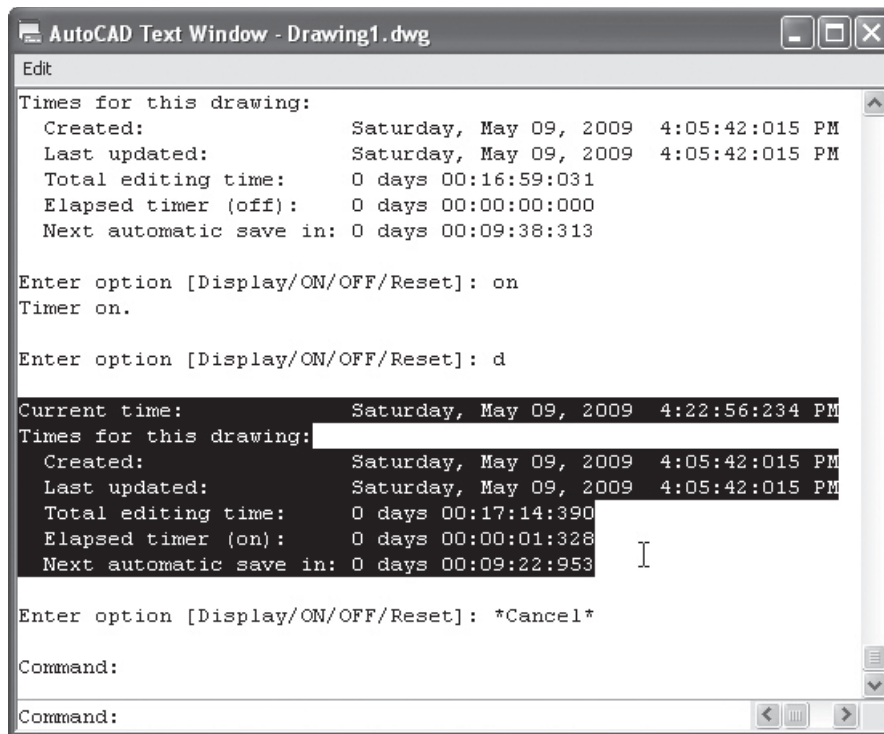

Fig. 11-3
2. Using the pointer, highlight the most recent time information, as shown in Fig. 11-3.